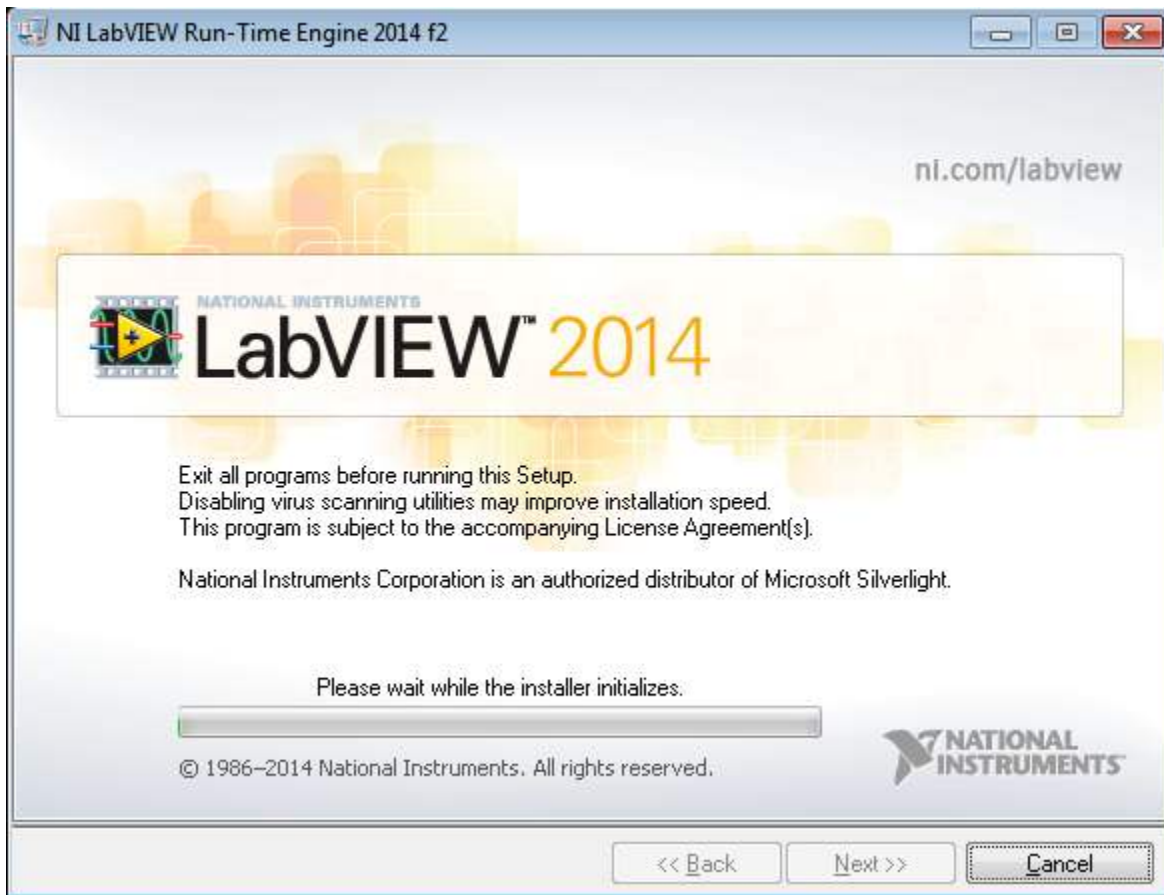

Figure 12. LabVIEW RTE Installation Initialization
11. A screen appears as shown in Figure 12. It initializes the LabVIEW RTE Installation.